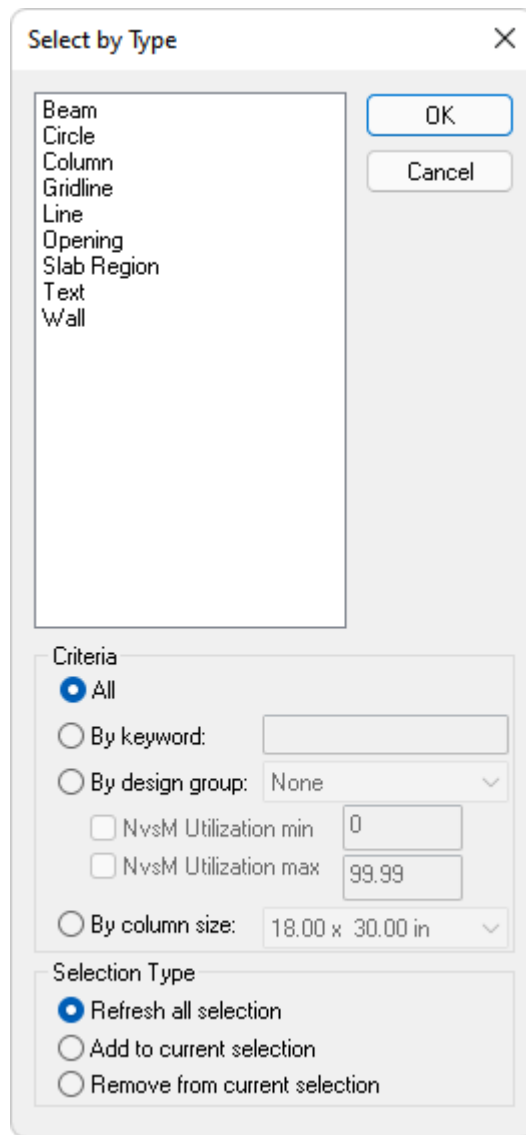

FIGURE 4-1
- Click on the **Select by Type**  icon located in the *Bottom Quick Access* toolbar. This will open the *Select by Type* dialog window as shown in **FIGURE 4-1**.